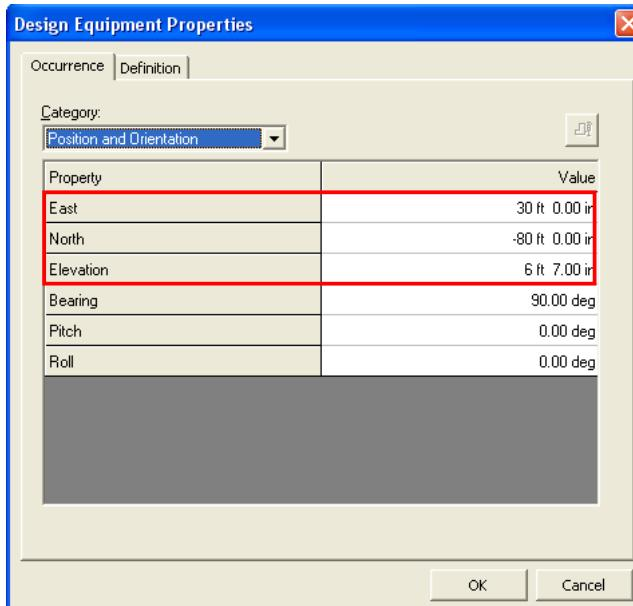

Figure 43: The E, El and N Values Selected for Positioning
10. Key in the values **30 ft** for **E**, **-80 ft** for **N** and **6 ft 7in** for **El**, as shown in Figure 43.